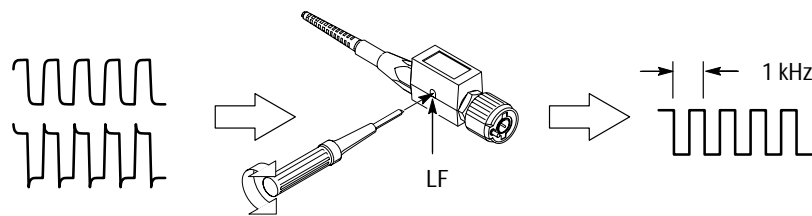

Figure 1: Low-frequency compensation
5. Adjust the trimmer in the probe as shown in Figure 1.